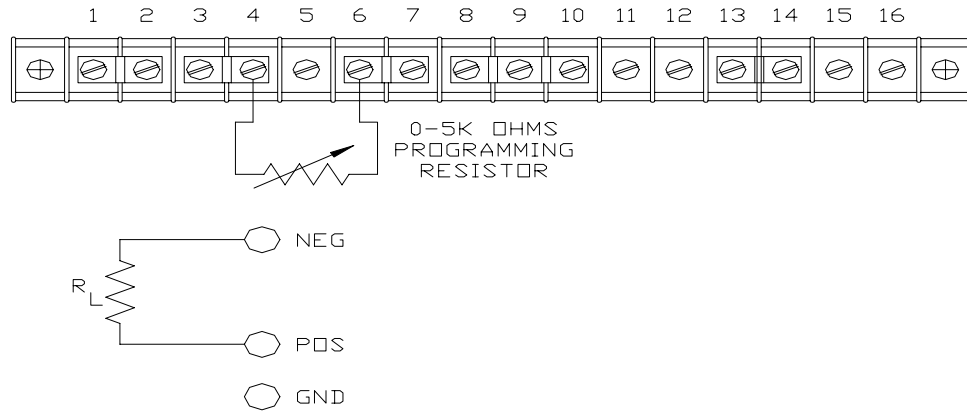

Figure 3-5
- a. External Voltage Programming Using Resistance. The resistance coefficient for remote voltage programming is 5k ohms = 100% of rated output voltage. The programming current from terminal 3 is factory set to 1 mA. If multiple switches or relays are used to program different levels, make-before-break contacts are recommended. See Figure 3-5 for connection requirements.